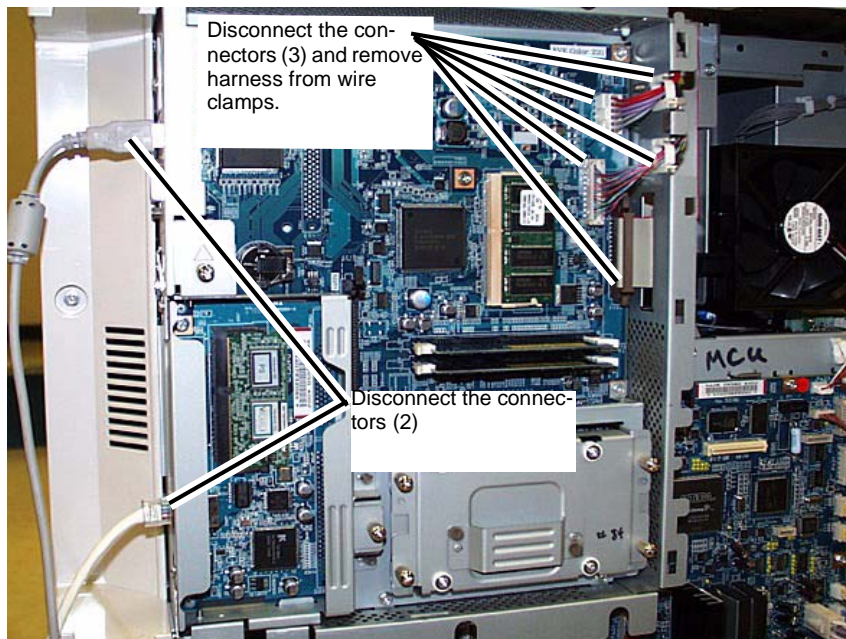

Figure 1 Disconnecting the connectors on the ESS PWB
4. Disconnect all the connectors (5) on the ESS PWB. (Figure 1)